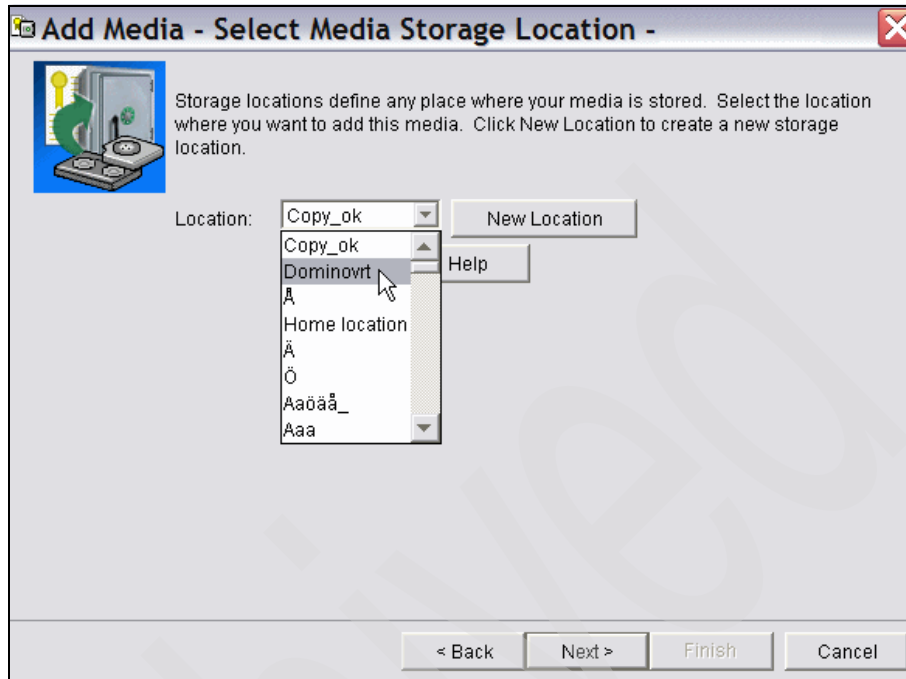

Figure 5-37 BRMS backup policy, select media storage location
24. The locations are created. To select the location into which the added volumes will be placed, in the Select Media Storage Location window shown in Figure 5-37 on page 225, scroll down against Location and select the relevant one (**Dominovrt**) and click **Next**.